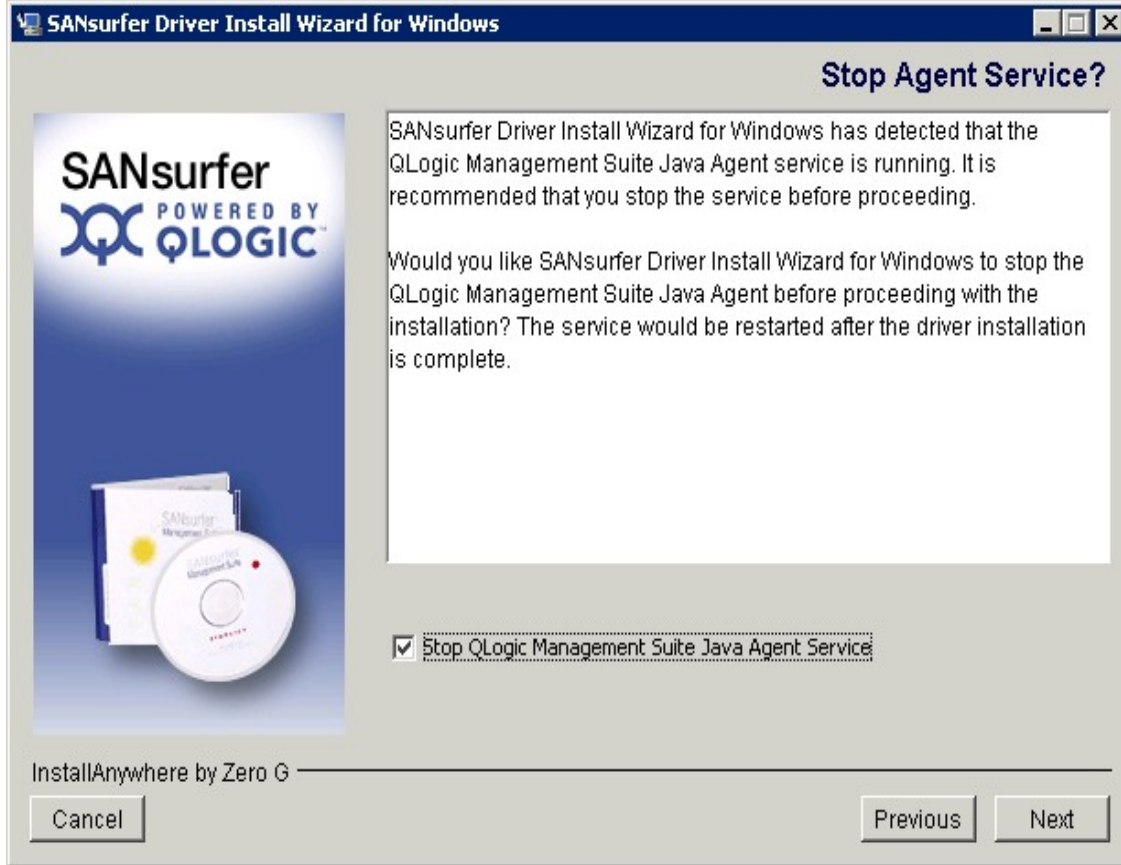

Figure 44 SANsurfer Java agent service message
6. If this is *not* a new installation, the message in Figure 44 may appear. Check the **Stop QLogic Management Suite Java Agent Service** checkbox and click **Next**.